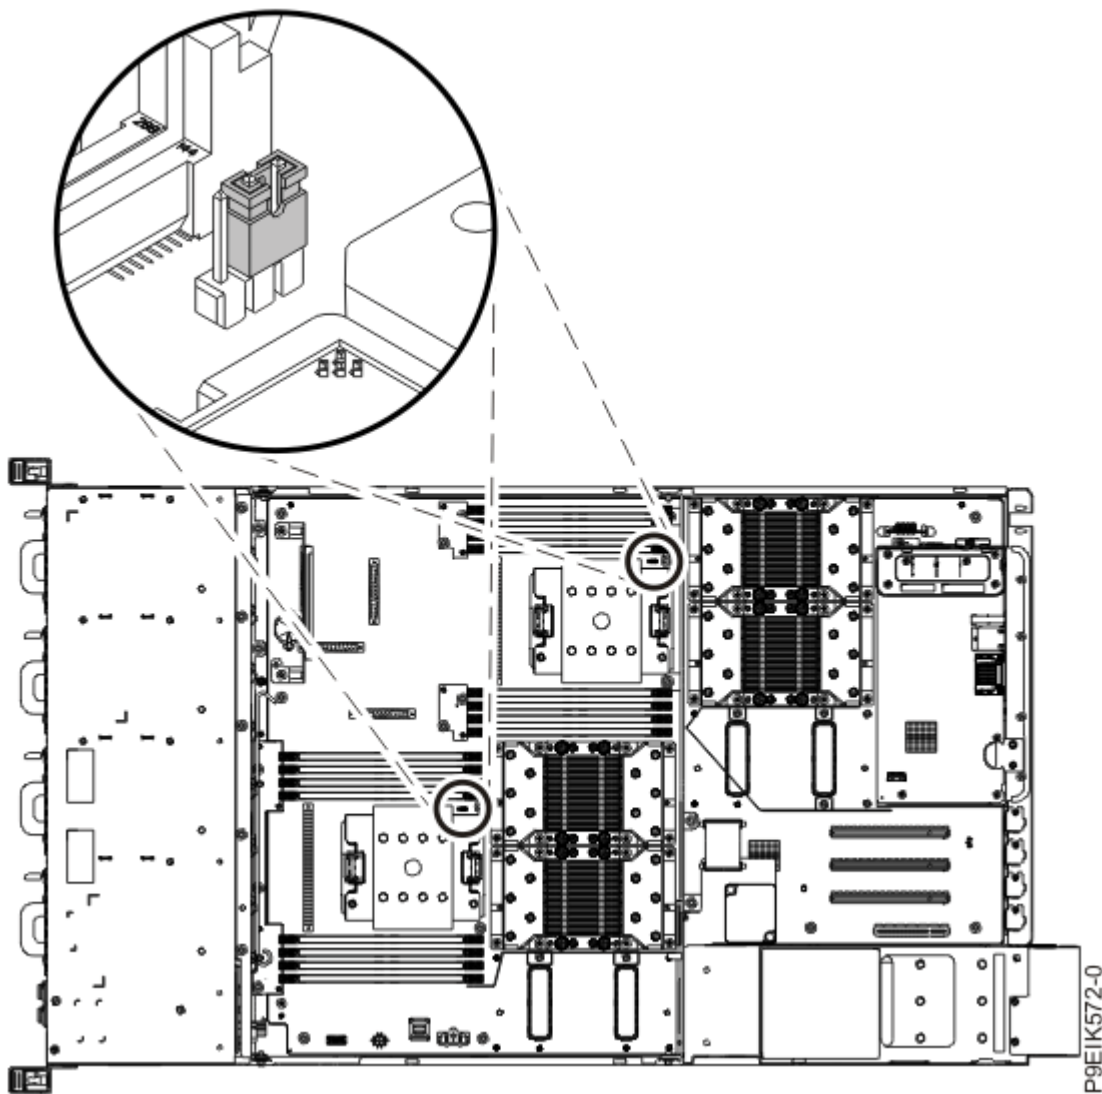

Figure 193. System processor jumper positions
12. Remove the system processor jumpers from the system backplane as shown in Figure 193 on page 222.